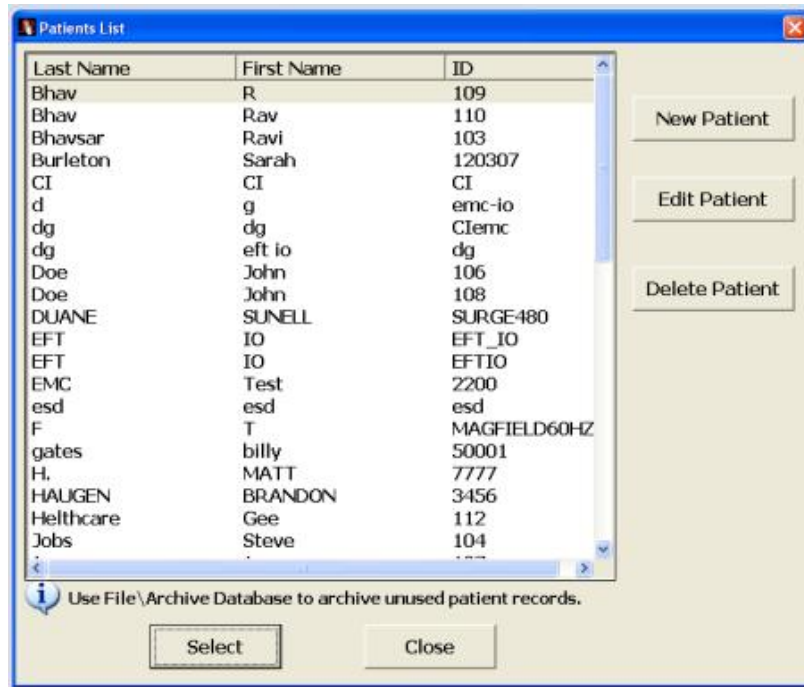

FIGURE 5-7: PATIENT LIST WINDOW
12. On the Patient List Window select: **New Patient** (Refer to Figure 5-7)